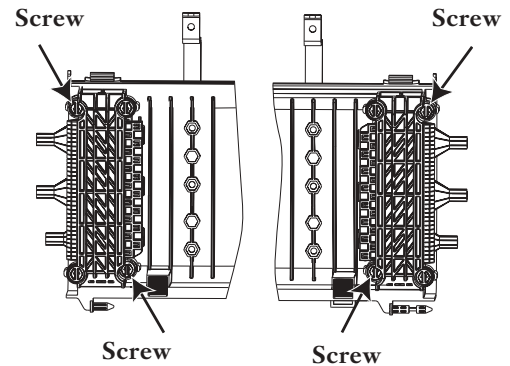

Figure 9 — Open Express Port
Step 2 Open the express cable portion of the end caps by loosening the two screws indicated on each end (Figure 9).